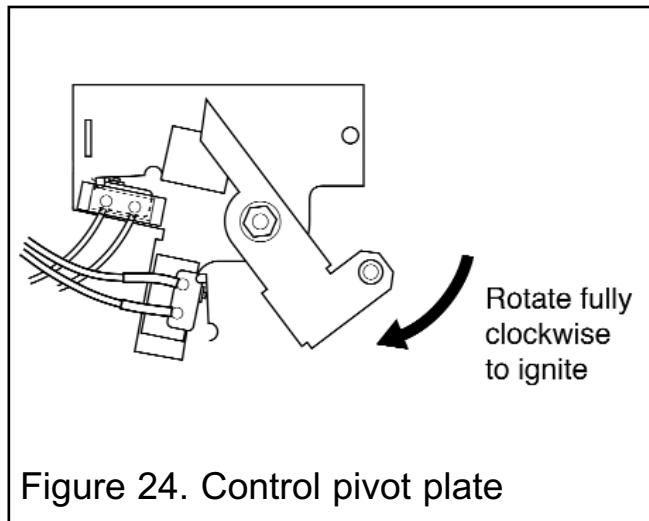

Figure 24. Control pivot plate
2. Depress the control pivot plate / control knob as far as it will go and hold in this position (See figure 24). This should close the ignition circuit and simultaneously open the gas tap allowing the gas to flow to the pilot. Wait a few seconds while the air is purged. The electronically generated sparks should light the pilot. The pilot should then light the main burner at its low setting. There may be a delay of up to four seconds between the pilot lighting and ignition of the gas at the main burner. This is normal and is due to the time required to fill the main burner compartment with sufficient gas for ignition.